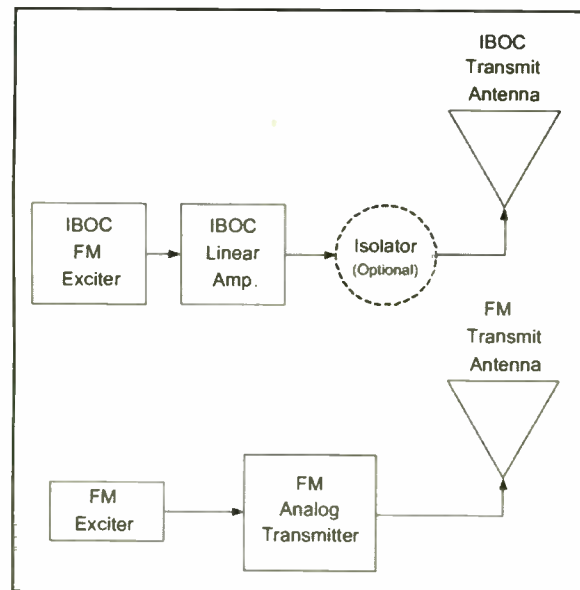
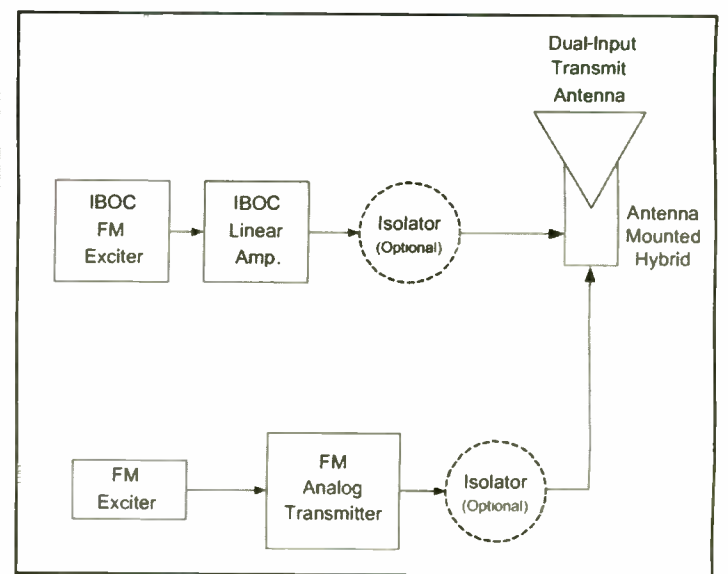

Fig. 2d: FM HD Radio Separate Antenna Implementation
Fig. 2e: FM HD Radio Dual-Input Antenna Implementation
**Separate, Dual-Input Antennas:** A separate antenna method takes one of two forms: a physically separate antenna (see Fig. 2d) or a dual-input antenna (see Fig. 2e).